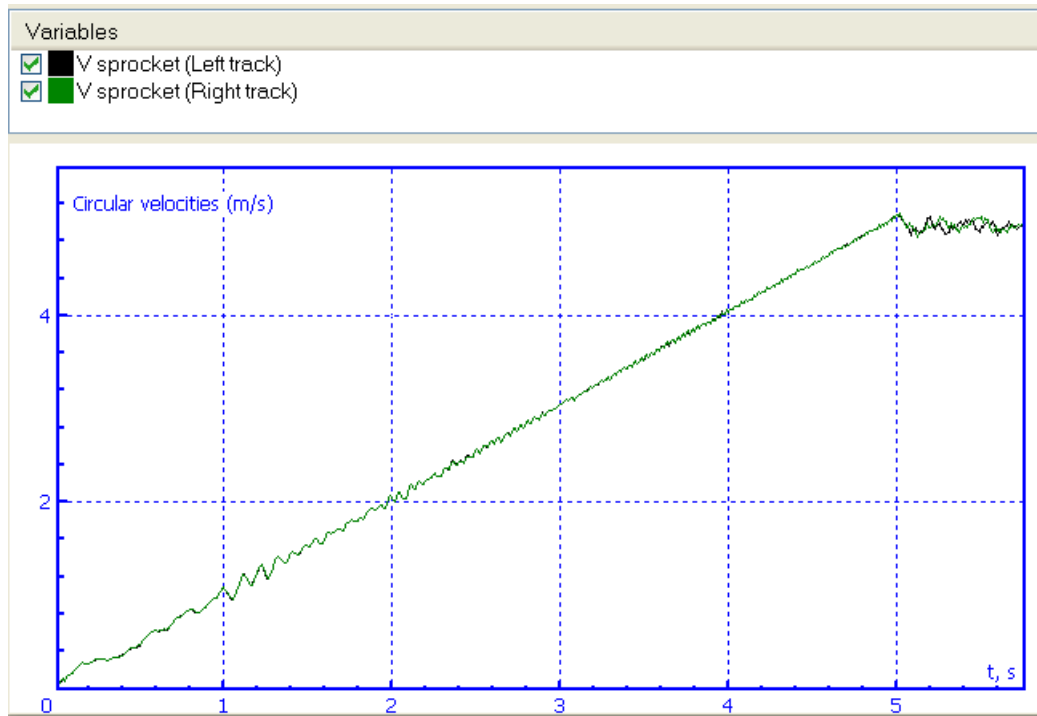

Fig. 56 Circular sprocket velocities vs. time
- 3) Run the test. The plot of circular sprocket velocities vs. time is shown in Fig. 56.